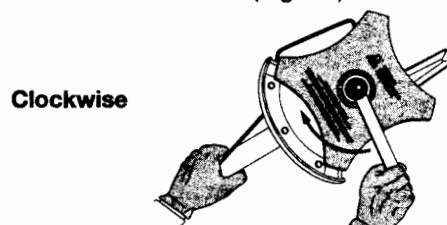

Fig. 14
2. Hold the locking rod in place by grasping it next to the boom of the unit (Fig. 14).
3. While holding the locking rod, loosen the nut on the blade by turning it clockwise with a 5/8 inch closed-end or socket wrench (Fig. 14).